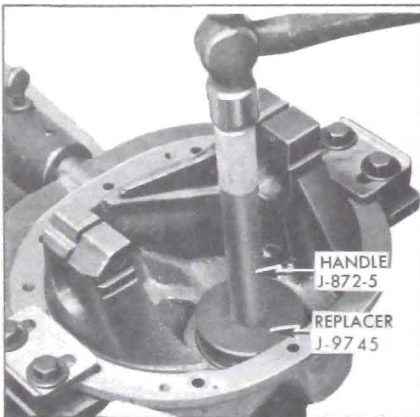

Figure 6-20—Installing Rear Pinion Bearing Outer Race
2. Drive rear pinion bearing outer race against shoulder in carrier using Replacer J-9745 with driver handle. See Figure 6-20.